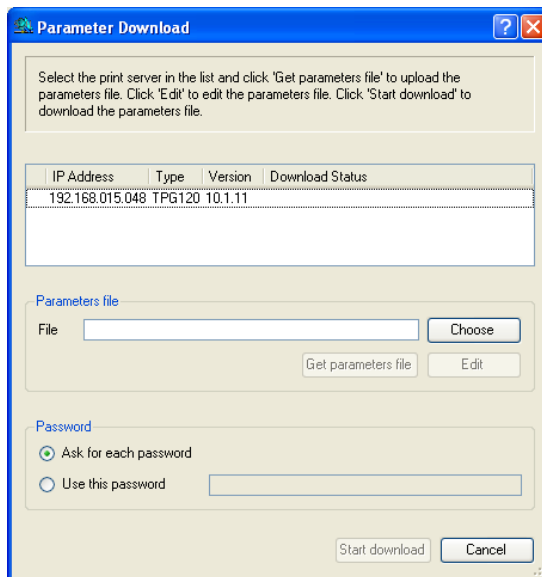

Fig. 9: InterCon-NetTool - Parameter Download
3. *Select **Actions – Download Parameters File** from the menu bar. The **Parameter Download** dialog appears; see: Fig. 9 ⇨  90.*
4. *Click **Choose**. The **Parameter Download** dialog appears; see: Fig. 9 ⇨ 90.*